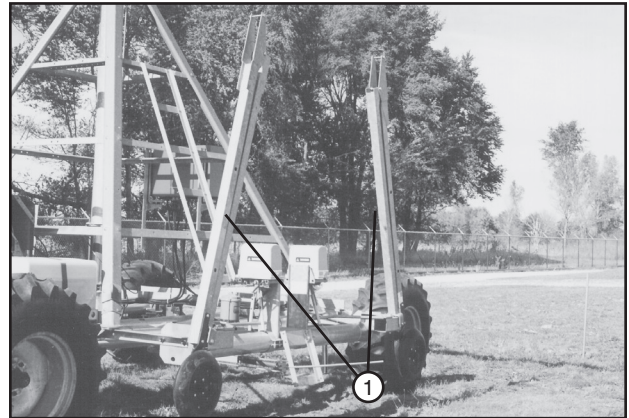

Figure 85-2 1. Furrow Guidance Arms- Up
2. Fold up the guidance arms and secure with the rubber straps (machines equipped with furrow guidance). See figure 85-2.